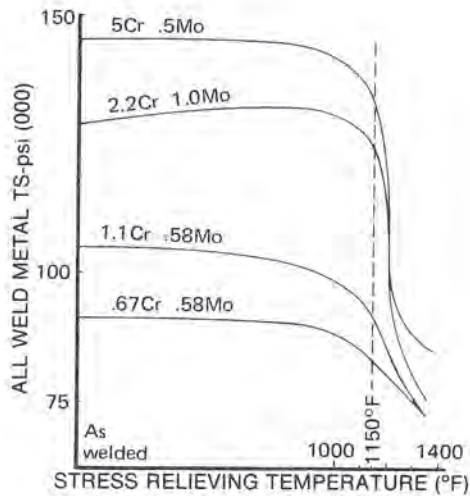

Figure 2
- G Weld strengths of Cr-Mo deposits decrease *substantially* with stress relieving temperatures over 1150°F. See Figure 2.